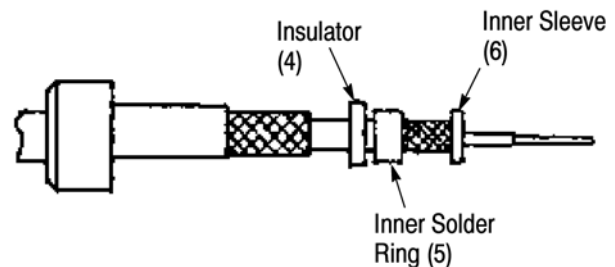

Figure 3
Slide inner sleeve (6) between inner dielectric and inner shield. See Figure 3.